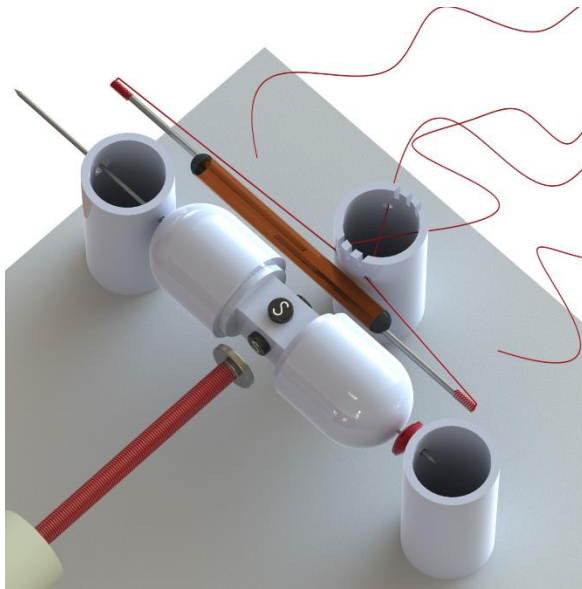
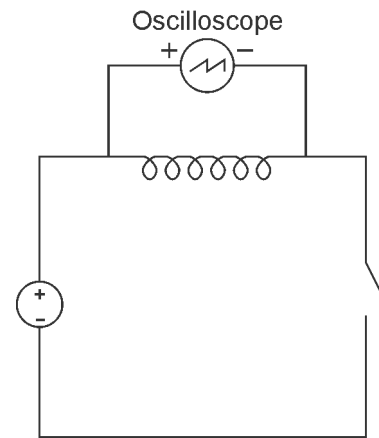

Figure 6: Reed switch arranged next to rotor.
Figure 7: Oscilloscope connections across coil
**Do not cut the wire** – it is needed to connect to your breadboard. Use the elastic band provided for extra support for the reed switch if required. Glue the pillar in place (note the correct orientation of the pillar in Figure 6) and, using your breadboard, build the circuit in Figure 7, using **one** of your wound coils.